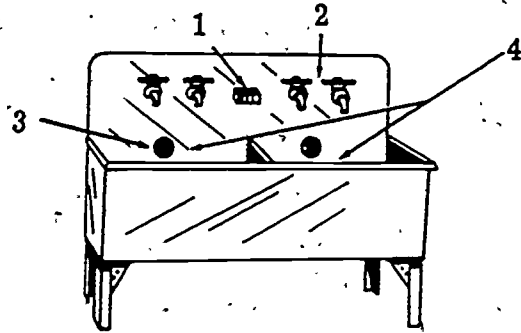

Figure 13. Sink
4. Examine figure 13 and enter your answers to the following statements or questions on the blank lines.
a. What type of sink is shown in figure 13? \_\_\_\_\_
- (1) \_\_\_\_\_
- (2) \_\_\_\_\_
- (3) \_\_\_\_\_
- (4) \_\_\_\_\_